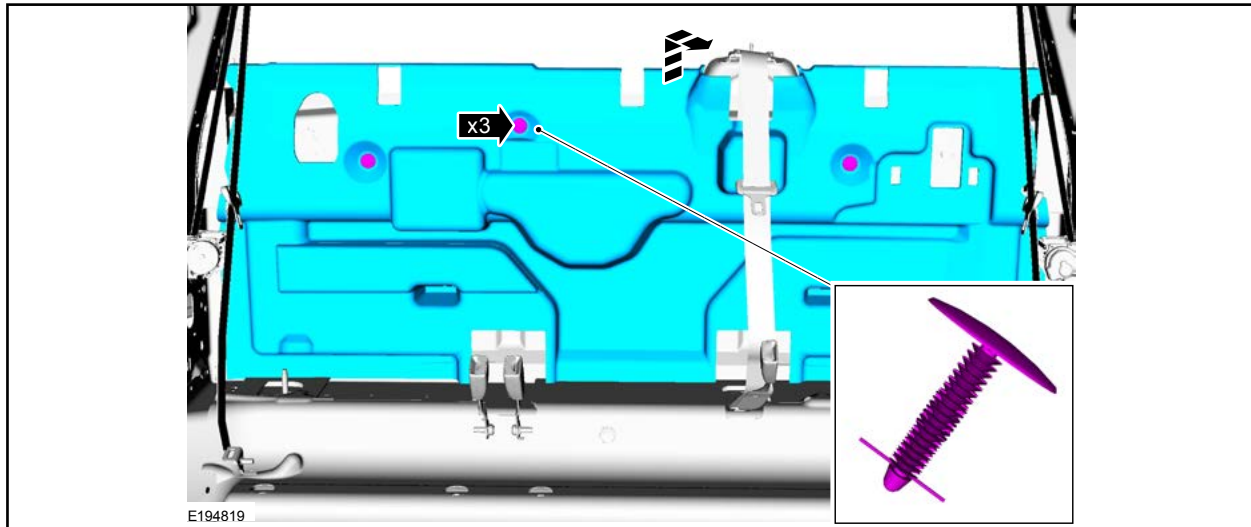

FIGURE 9a
1. Remove the three push-pin retainers and the loadspace trim panel through the driver's side of the vehicle. See Figure 9a and 9b.